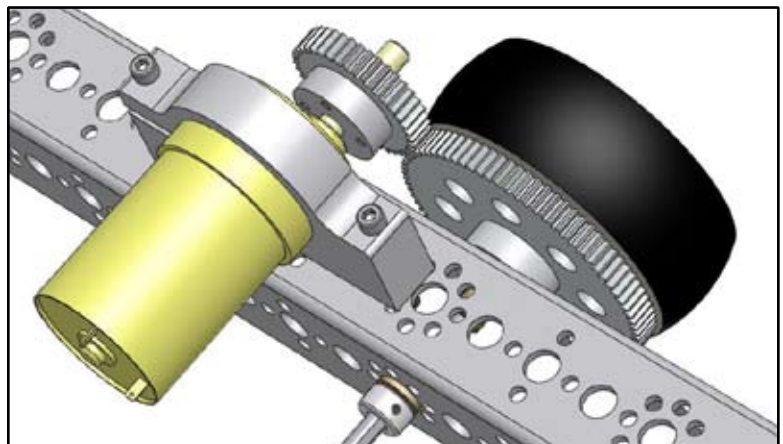

Figure A12
3) Take the gear assembly and slide it on the motor shaft with the gear facing out. Adjust the motor until its gearbox is centered in the motor mount. Slide the gear assembly on the motor shaft until the 40-tooth gear is aligned with the 80-tooth gear (Figure A12). Tighten the hub screw with a 3/32" hex wrench.
4) Turn the motor until the 40-tooth gear meshes with the 80-tooth gear (Figure A12). Tighten the clamping end of the motor mount with the 7/64" hex wrench.